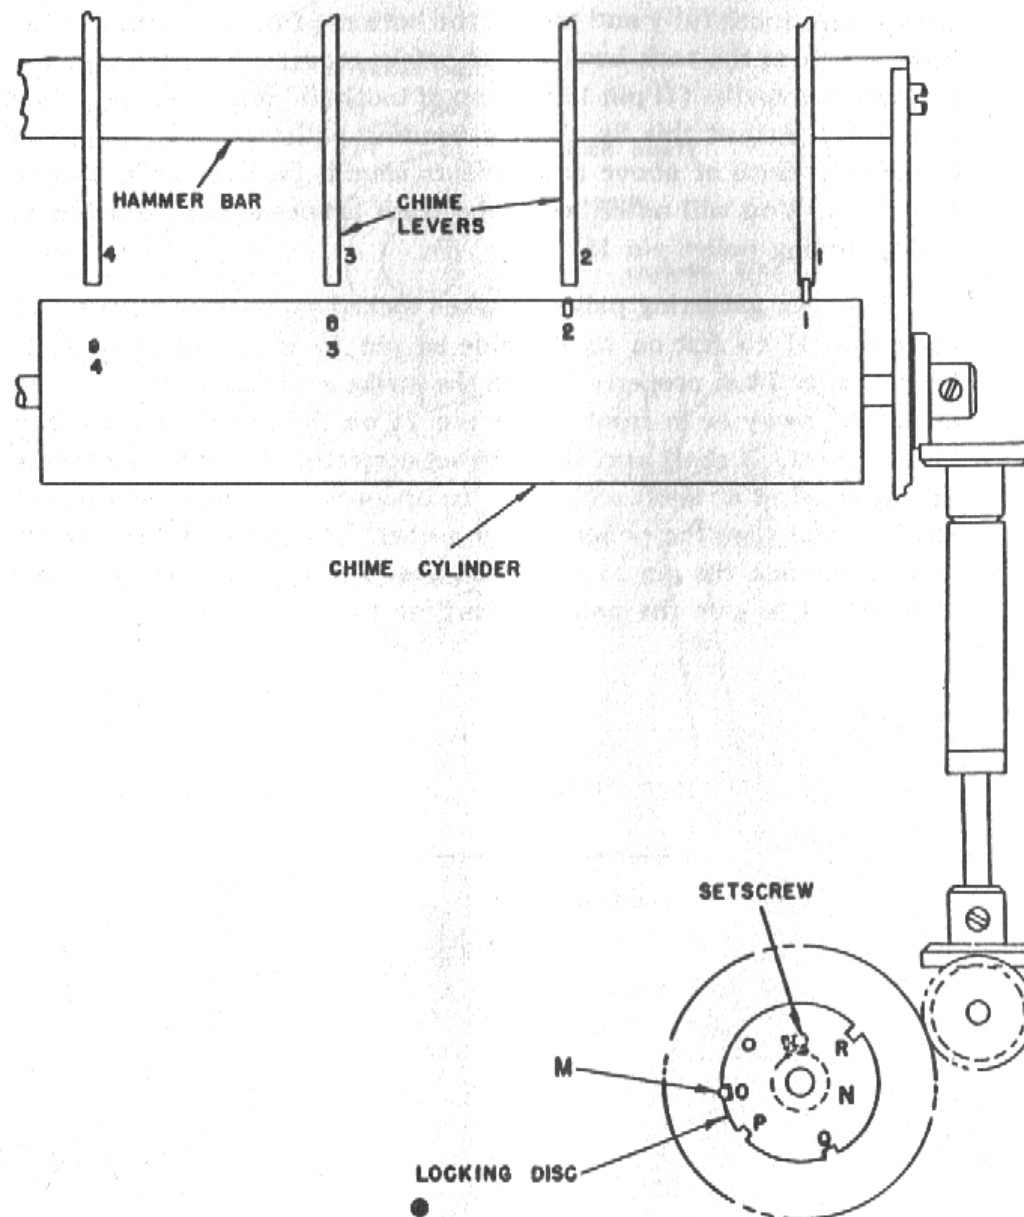

Figure 7
See Figure 7, Page 15
4. Cylinder drive gear on side of movement may be loose on the cylinder shaft. Tighten the set screw that is on the bushing of the cylinder drive gear and then reset cylinder. See Figure 7, Page 15.
1. Cylinder may not be set correctly. See Figure 7, Page 15.